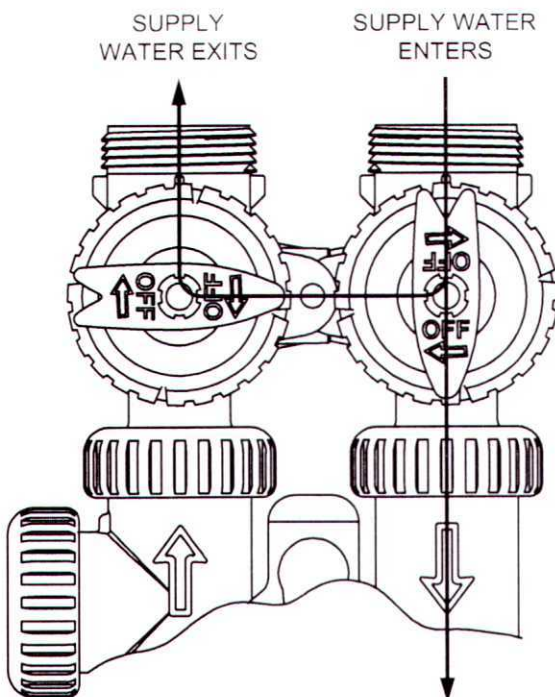

Figure 4
4. **Shut Off Position:** The inlet handle points to the center of the bypass valve and the outlet handle points in the direction of flow, the water is shut off to the plumbing system. If water is available on the outlet side of the softener it is an indication of water bypass around the system (i.e. a plumbing connection somewhere in the building bypasses the system). (See Figure 4)